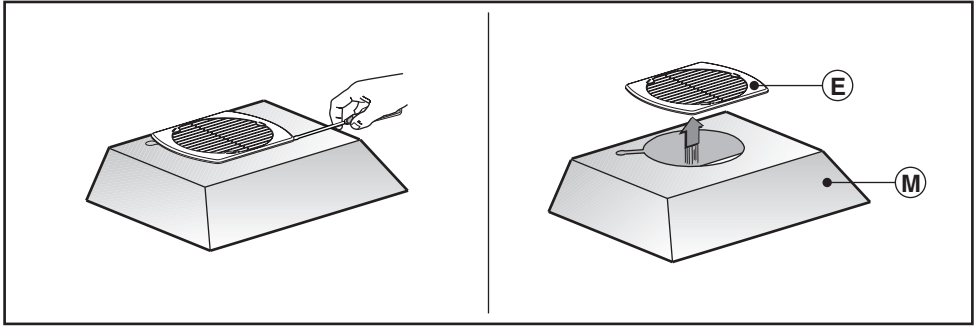

Fig.7
- Unclip the canopy **M** and remove the grille **E** (Fig.7).